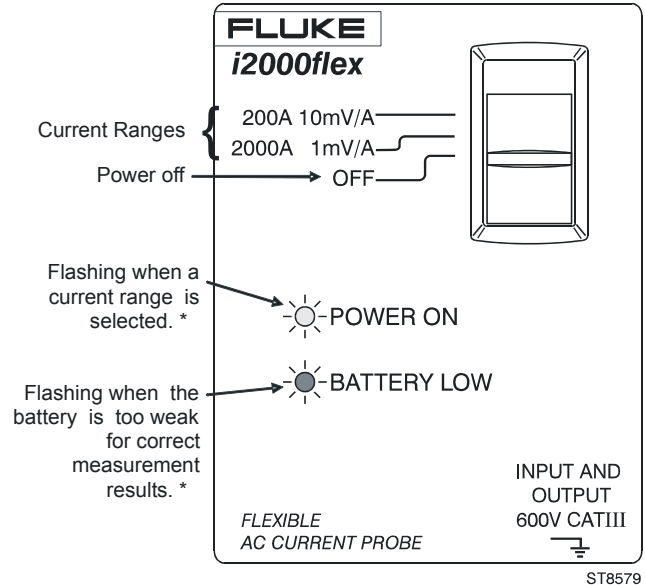

Figure 1. Text on the i2000flex unit
- “BATTERY LOW” indicator not flashing (red LED) (see Figure 1)
Indicators (see Figure 1)